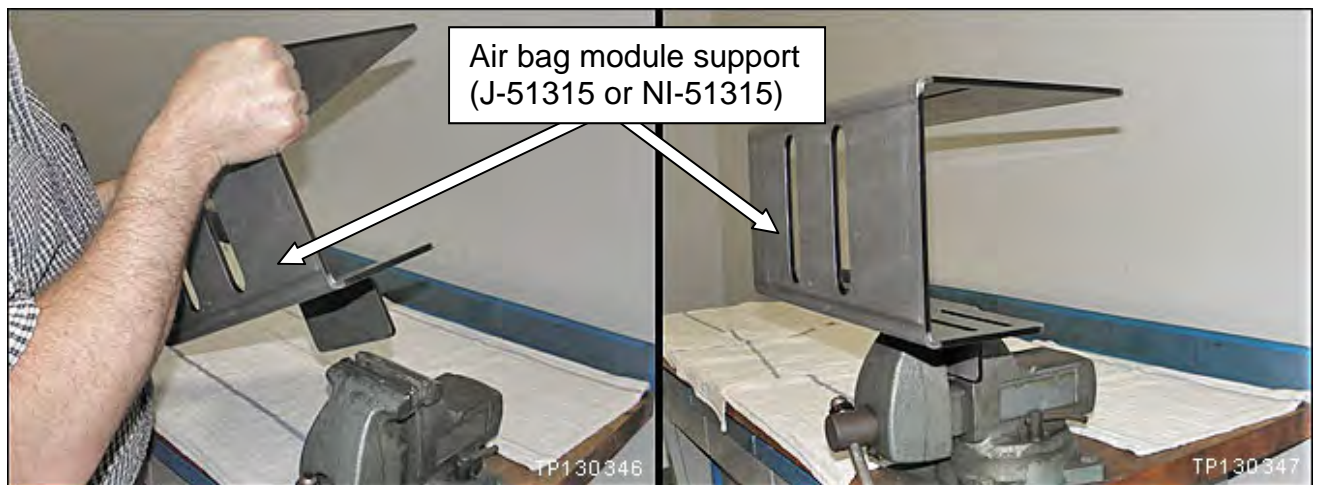

Figure 13
20. Securely mount the air bag module support (support) in a vise (Figure 13).